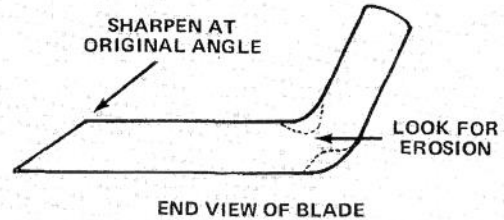

Figure 28
Check cutter blade every time rider is tipped on end. If lock nut holding blade is loose, tighten it to 45-60 ft-lb (61-81 N·m). If blade or sail (Fig. 28) at end of blade is worn, eroded, or cracked, replace the blade. Replace the blade if it is bent or out-of-balance. Always use genuine TORO replacement blades to assure safety and optimum performance. NEVER USE WILL-FIT REPLACEMENT BLADES.
7. Using a file, sharpen cutting edge at both ends of the blade (Fig. 28).